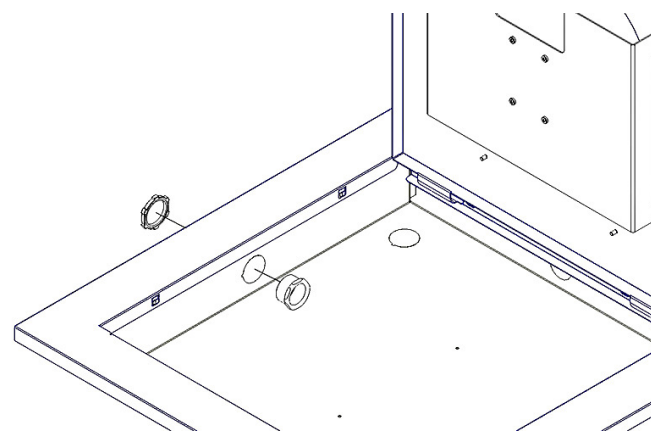

Figure 2
Step 1 – Place the *ceiling enclosure backbox* on the work surface. Determine which knockout is to be used to bring in the Data cable and remove the knockout. Install the conduit fitting from the inside of the enclosure. Insert the conduit fitting through the hole with the nut installed from the outside of the enclosure (Ref. Figure 2).